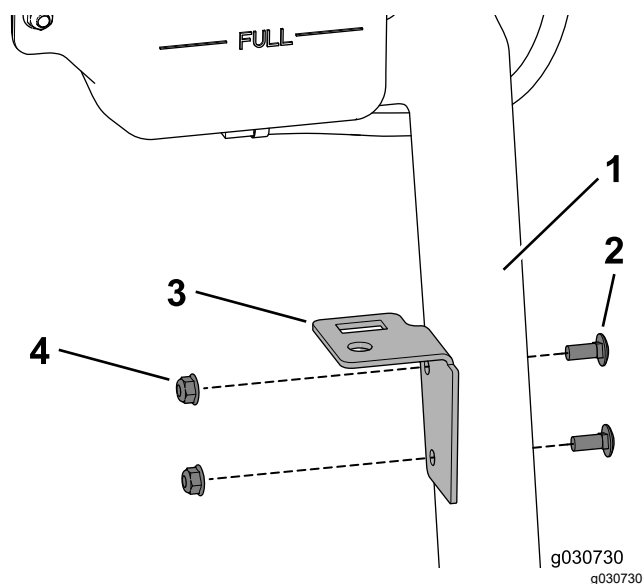

Figure 43
1. Use 2 carriage bolts (5/16 x 3/4 inch) and 2 flange nuts (5/16 inch) to secure the tank plate to the coolant-bottle support (Figure 43)